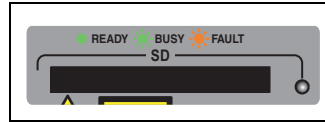

Figure 23. SD Slot LED
All x610 Series Switches have one Secure Digital (SD) LED, shown in Figure 23 and defined in Table 11.